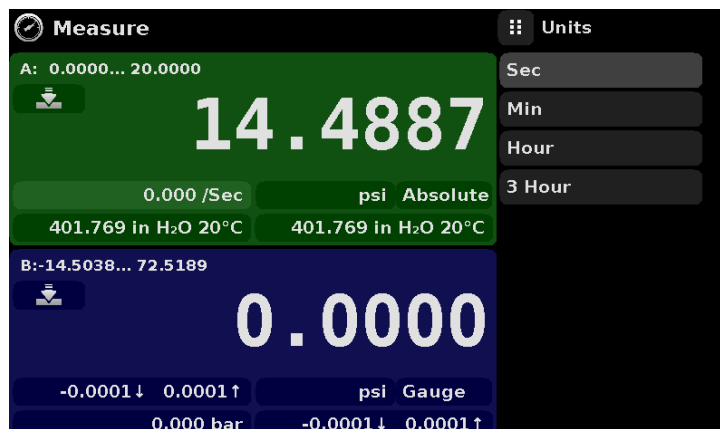

Figure 6.4.1.3 - Rate selected and unit options displayed
**Temperature:** This option is only available with CPT9000 as an external transducer. (Fig 6.4.1.2)